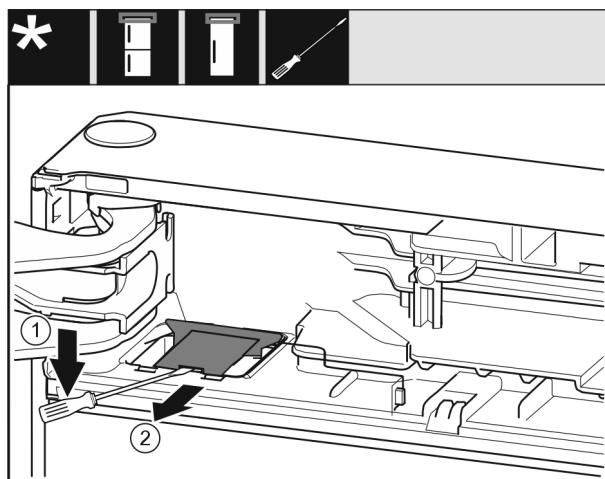

Fig. 13
- Loosen the screw *Fig. 13 (1)* on the closing damper unit with a 14 mm (9/16 in) screwdriver.
- Use the screwdriver to lift out the closing damper unit *Fig. 13 (2)* on the handle side.
- Pull out the closing damper unit *Fig. 13 (3)*.